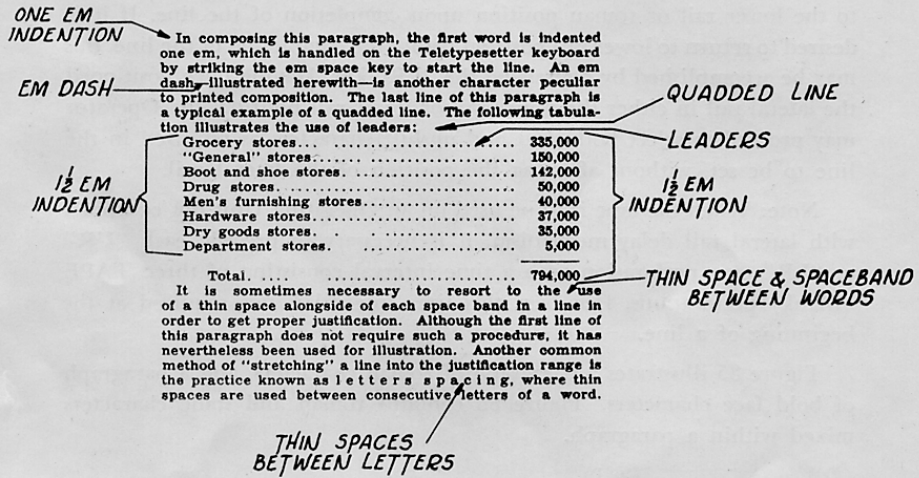

FIGURE 87. Indentions.
2. Repunch remainder of line, inserting Thin spaces between the letters of the selected word (see 7th line of last paragraph of Figure 87).
IN MAKING INDENTIONS, it is necessary to use "fixed" spaces to obtain proper alignment. The first line of the copy in Figure 87 is indented one EM space. The tabular matter in this Figure is indented one and one-half EMs — that is, each line is started by perforating one EM space and one EN space.